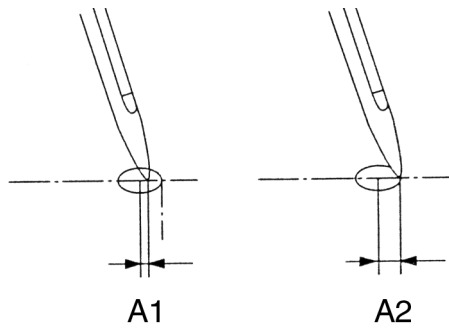

Fig. 15
When the rising needle point is aligned with the upper surface of the needle plate, the feed dog must be in the position shown in fig. 15/A2.
- The needle and the feed dog must move upward in accordance with fig. 15/A2.